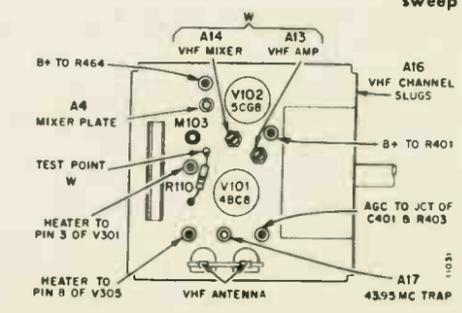

Figure 32. Top View of VHF Tuners 94E144-13, -19, -24 and 26 Showing Adjustment Locations.
- See figures 32 and 33 for adjustment locations and identification.